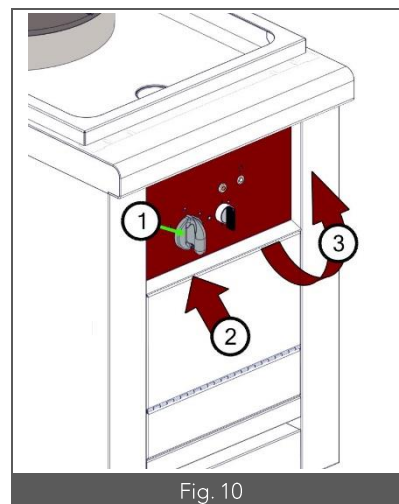

Fig. 10
- 1- Remove the control knob from the gas tap (Fig. 10 – Item 1).
- 2- Insert a flat screwdriver between the control panel and the ignition board to unclip the latter (Fig. 10 – Item 2).
- 3- Then tilt the control panel upwards to completely free it from the appliance (Fig. 10 – Item 3).